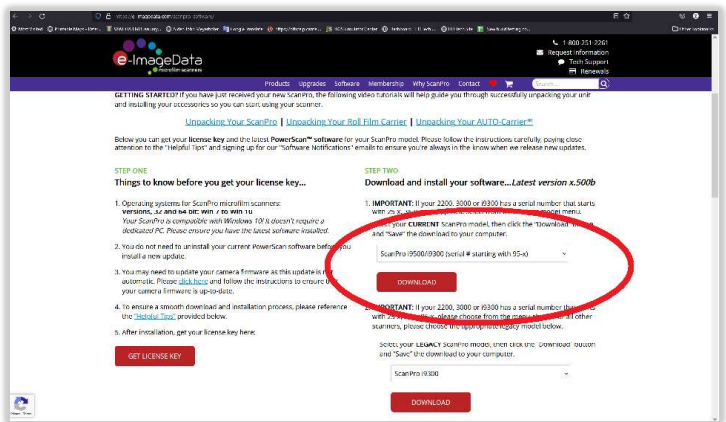

Figure 23
4. Select the appropriate ScanPro version from dropdown list. Then click **DOWNLOAD**. *Figure 23*. If prompted, choose to save the file, not run.